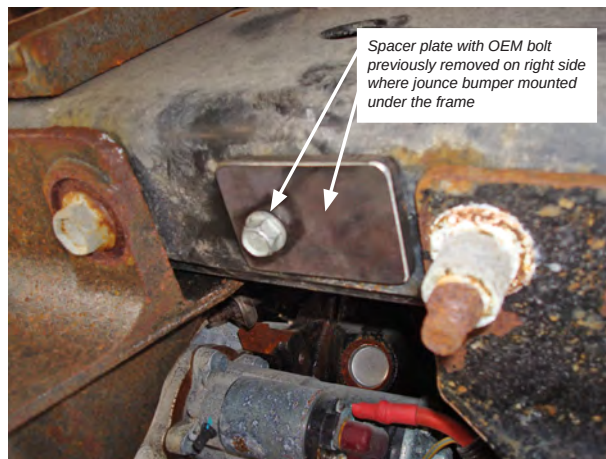

fig. 6
2. Install the small spacer (C) onto the bottom of the frame (where the jounce bumper mounted) on the right side of the vehicle with the existing jounce bumper bolt previously removed (fig. 6). Tighten securely.